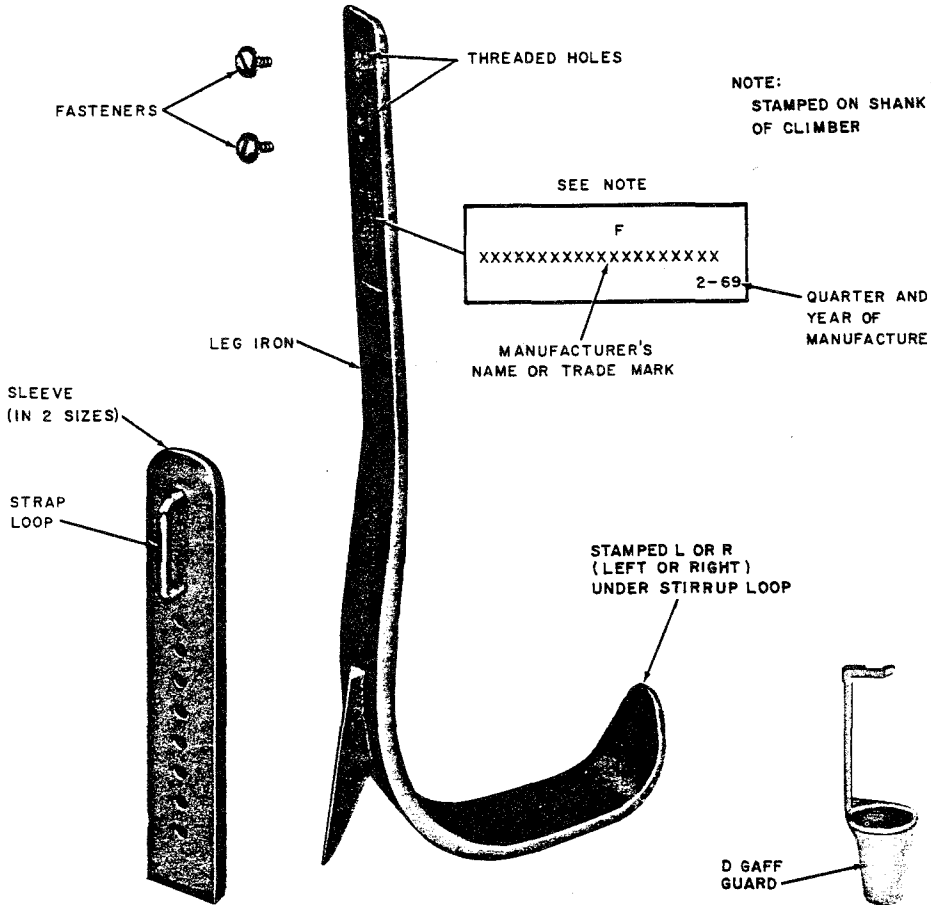

Fig. 1—Parts for F Climber
3.01 The F climber is an adjustable length climber that consists of a leg iron, an adjustable sleeve, fasteners, and gaff guards. The parts of an F climber are shown in Fig. 1.